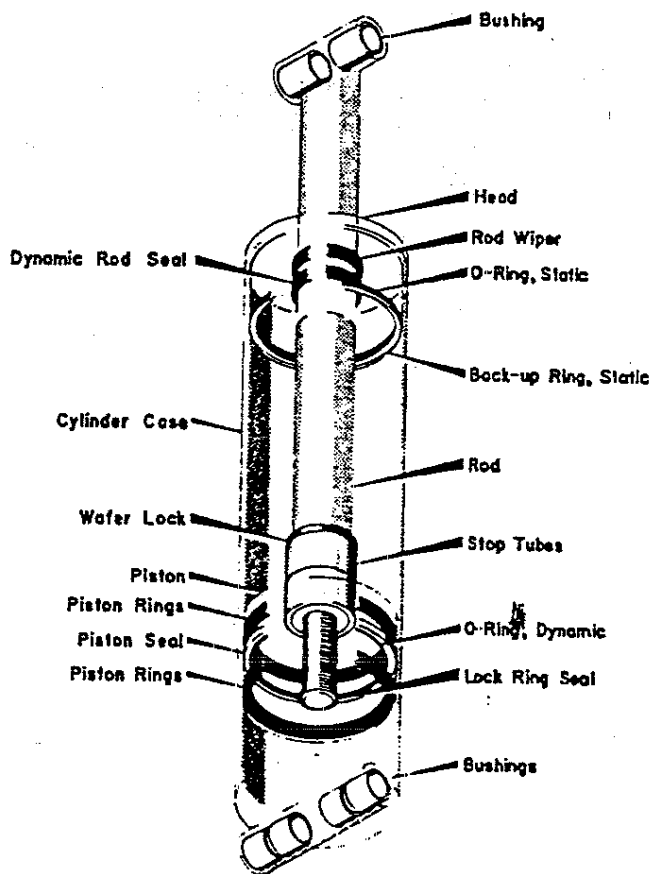

Figure F-2. Cylinder Layout
4. Unscrew the head (Figure F-2) in a clockwise direction with the spanner wrench. Withdraw the head from the cylinder case.